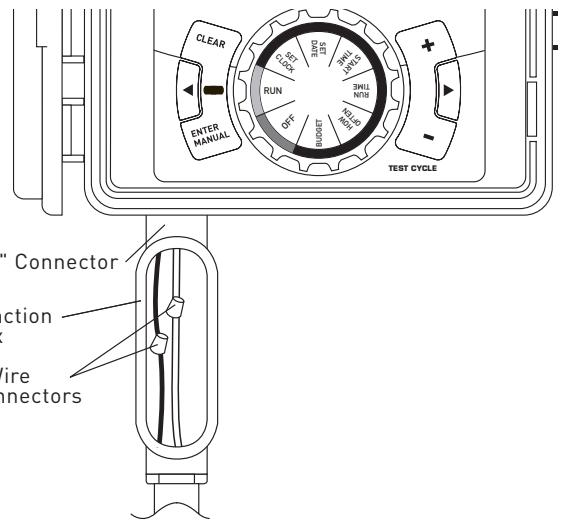

Figure 5: Using a Junction Box
**Outdoor Locations** – If a covered Ground Fault Interrupter (GFI) outlet is available, insert the power cord into the 110 volt outlet. If no outlet is available, the controller must have the wiring permanently installed (\*see figure 5)
- Connect the junction box to the controller using a ½" nipple (Junction box and nipple not included). [See Figure 5] Connect the source power conduit to the entrance of the junction box, following all the appropriate codes.